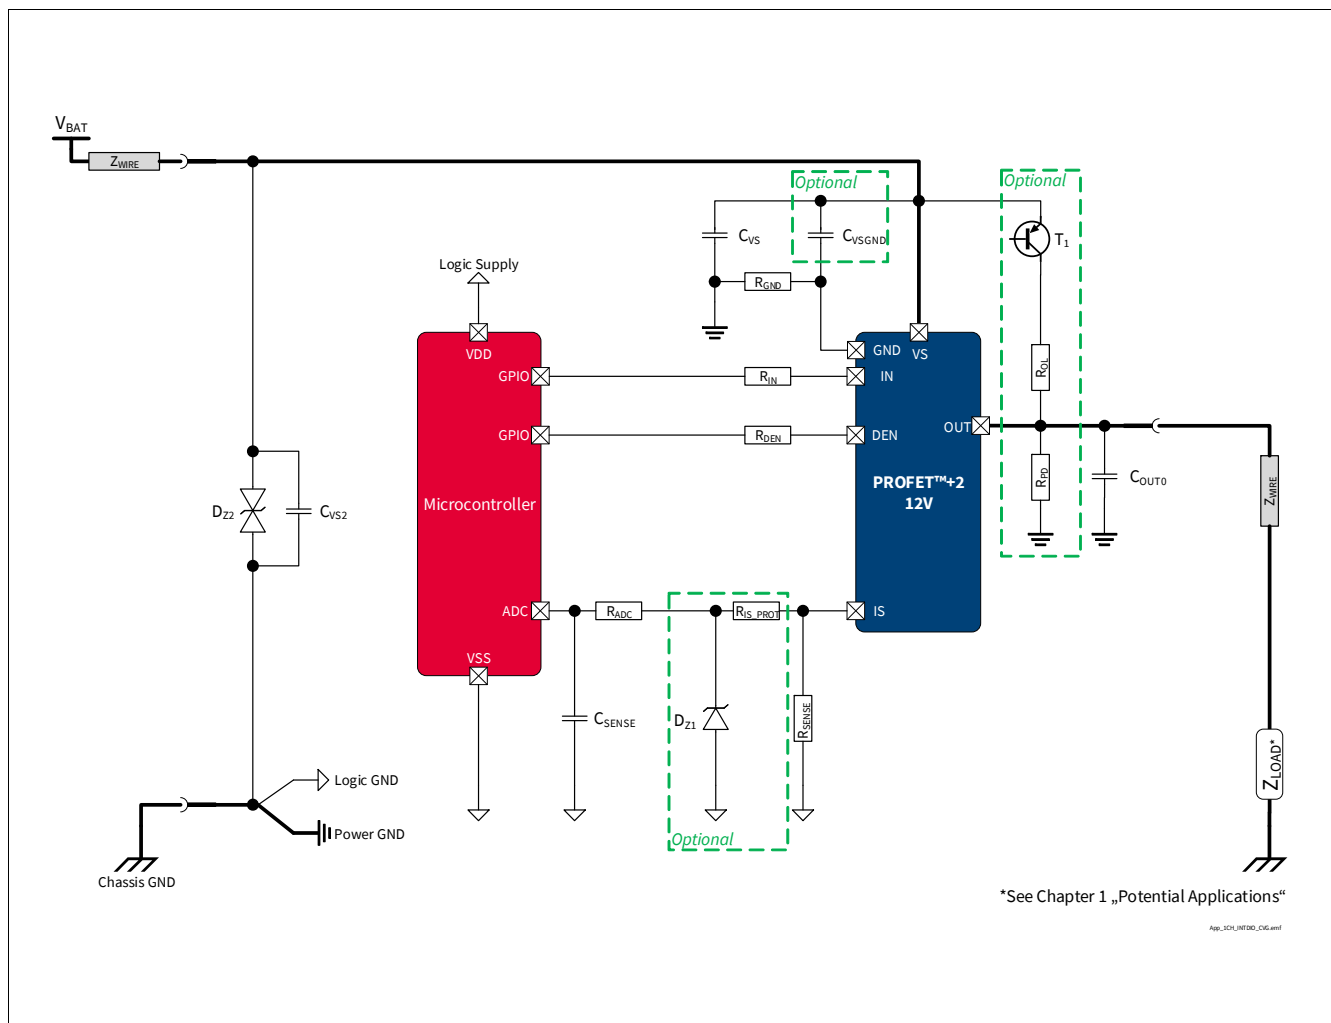

Figure 42 BTS7040-1EPA Application Diagram
1.02 , 2019-10-15	P_8.7.6.1, P_8.7.6.7, P_8.7.6.8 updated (added in Note or Test Condition: link to Figure 25) P_8.7.6.6 updated (added in Note or Test Condition: link to Figure 26) P_7.5.6.4, P_7.5.6.5 updated (added in Note or Test Condition: DEN = "low"; link to Figure 19) P_7.5.6.12 updated (added in Note or Test Condition: see Figure 21 ; deleted unnecessary space in Symbol: dVOUT / dt → dVOUT / dt) P_9.7.6.1 updated (added in Note or Test Condition: See Figure 34) P_9.7.6.6 updated (Min./Typ./Max.: -40%/1800/+40% → -26.0%/1750/+26.0%) P_9.7.6.8 updated (Min./Typ./Max.: -35%/1800/+35% → -23.5%/1750/+23.5%) P_9.7.6.9 updated (Min./Typ./Max.: -30%/1800/+30% → -20.5%/1750/+20.5%) P_9.7.6.12 updated (Min./Typ./Max.: -26%/1800/+26% → -19.0%/1750/+19.0%) P_9.7.6.15 updated (Min./Typ./Max.: -11%/1800/+11% → -9.7%/1805/+9.7%) P_9.7.6.17 updated (Min./Typ./Max.: -6%/1800/+6% → -6.0%/1805/+6.0%) P_9.7.6.19 updated (Min./Typ./Max.: -5%/1800/+5% → -4.5%/1805/+4.5%) P_7.5.6.11 updated (added in Note or Test Condition: see Figure 19) P_4.2.6.6 updated (Max.: 7.5 mJ → 9 mJ) Figure 1 , Figure 42 updated Chapter 1 updated (or LED equivalent → or equivalent electronic loads (e.g. LED modules)) P_4.3.0.7 added Table 23 updated Chapter 5.1 updated (added: see Chapter 10 for the complete application setup overview)